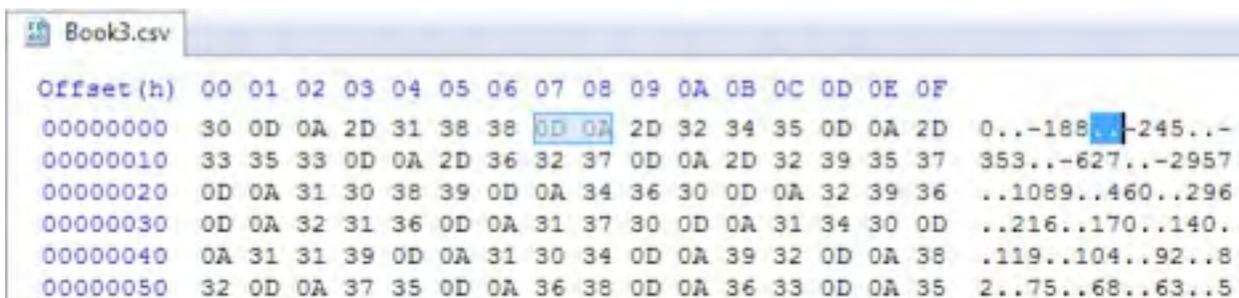

Figure 20.18.
- Download a free hexadecimal-file editor such as HxD (<http://mh-nexus.de/en/hxd/>) and install it on your computer. Then run HxD and use it to open the your file Distance_array.csv. You should see a display such as that shown in **Figure 20.18**.